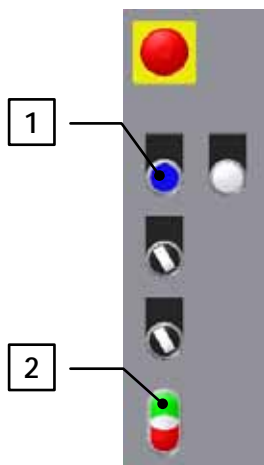

FIGURE 4.8: CONTROL PANEL PUSH-BUTTONS
Push the blue RESET push-button (refer to pos.1 in Figure 4.8) and then the green Start push-button (pos.2) to initiate the electronics and start the graphical user interface.